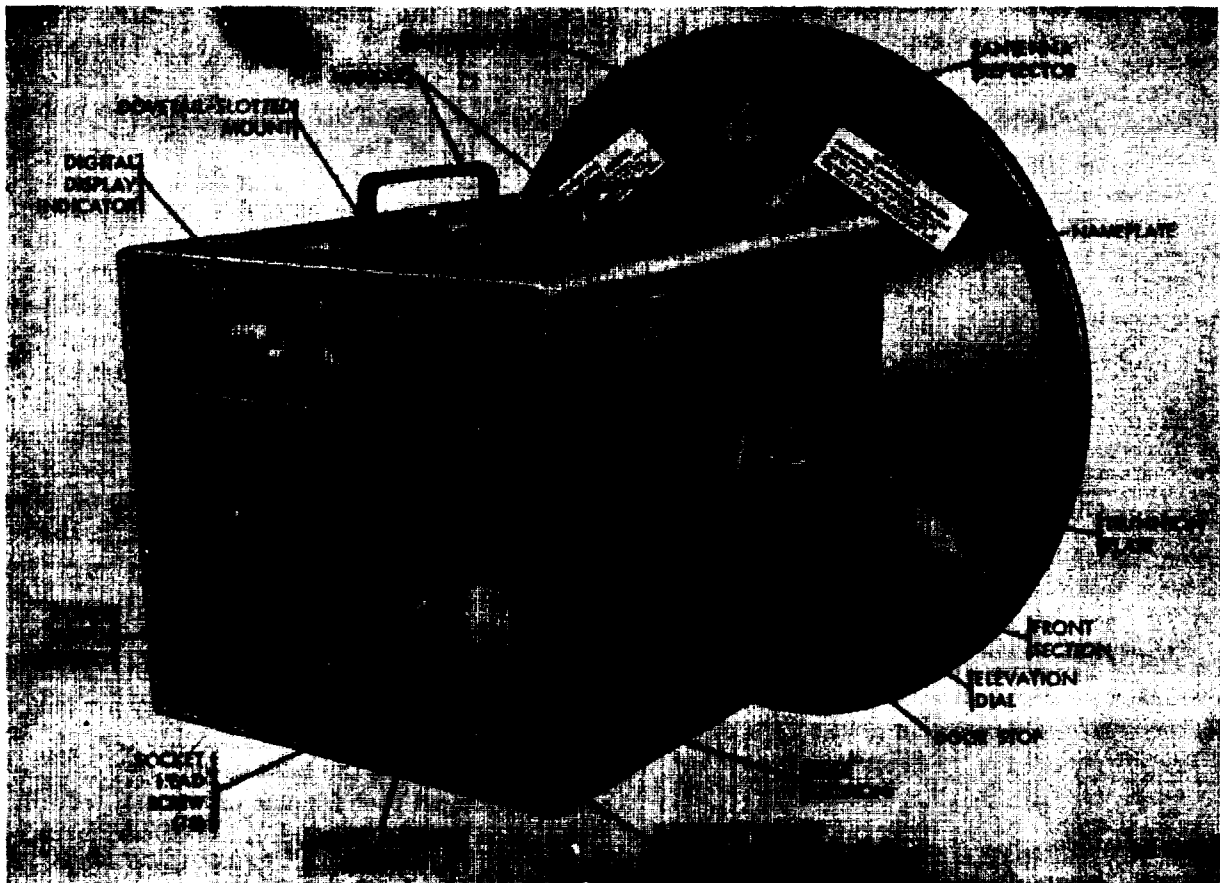
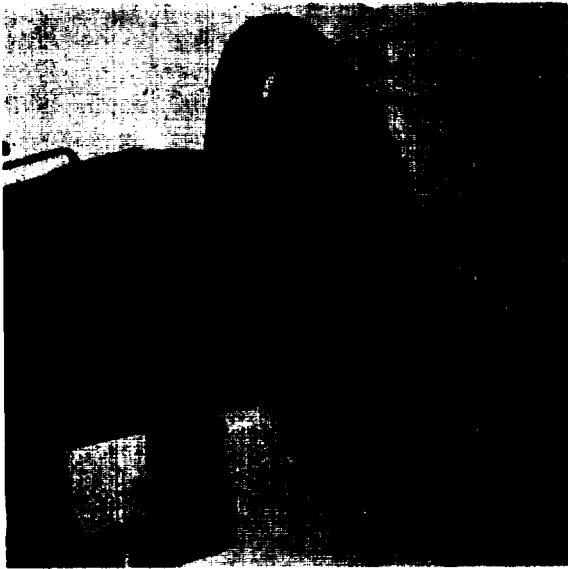
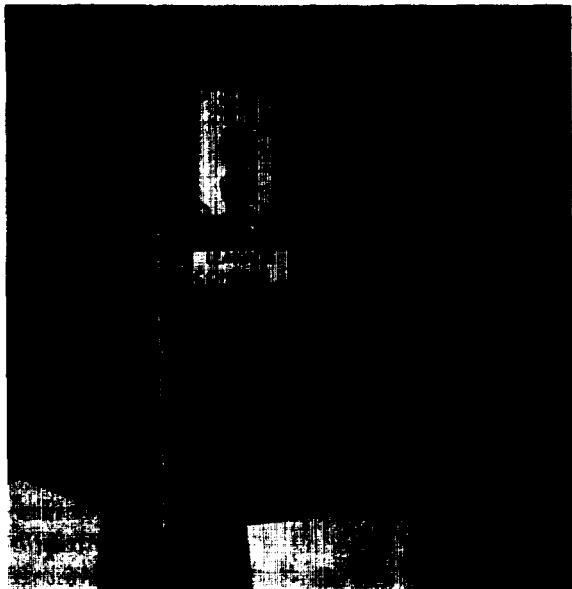

Figure 1-4. Radar chronograph.
Figure 1-5. Radar chronograph antenna.
Figure 1-6. Leakage adjustment controls.
c. *Radar Chronograph.* The radar chronograph (fig. 1-4) is the main component of the radar chronograph set, M36. Essentially, it consists of a complete radar transmitter-receiver with special circuitry for comparing outgoing and incoming frequencies and for converting the result into velocity terms on a direct readout display. Transistors are utilized in the electronic circuitry wherever signal frequencies and power levels permit. This gives the radar chronograph a high degree of portability, compactness, coolness of operation, ruggedness, and stability. The whole unit consists of six major assemblies contained in a two-section aluminum case. The smaller front section mounts the antenna reflector (fig. 1-5) and contains the waveguide and amplifier-detector (IF) assemblies.
On the left hand side of the front section are two LEAKAGE ADJUSTMENT control knobs numbers 1 and 2 (fig. 1-6). All other operating controls are located on the rear panel. The rear section contains four plug-in assemblies; the audio amplifier (fig. 1-4), digital display indicator, power supply and AFC assemblies. The first three of these are accessible from the rear panel and are held in place by captive screws. The AFC assembly can be made accessible by loosening four key lock fasteners and swinging open the hinged front section. For access to all four assemblies, the complete rear panel may be pulled out on its guide rails after loosening ten screws. Air vents with filters are located at the bottom of the rear section for intake and exhaust of the air circulated by the cooling fans. The two sections are hinged together to permit opening for access to the waveguide and IF amplifier assemblies, and to the AFC assembly. A dovetail-slotted mounting plate is located on top of the rear section. The dovetail-slotted plate is used for mounting the sighting telescope XM128. On both sides of the rear section are trunnion plates (fig. 1-4) which support the radar chronograph in the mount. An elevation scale is fastened on the right hand side of the radar chronograph case.